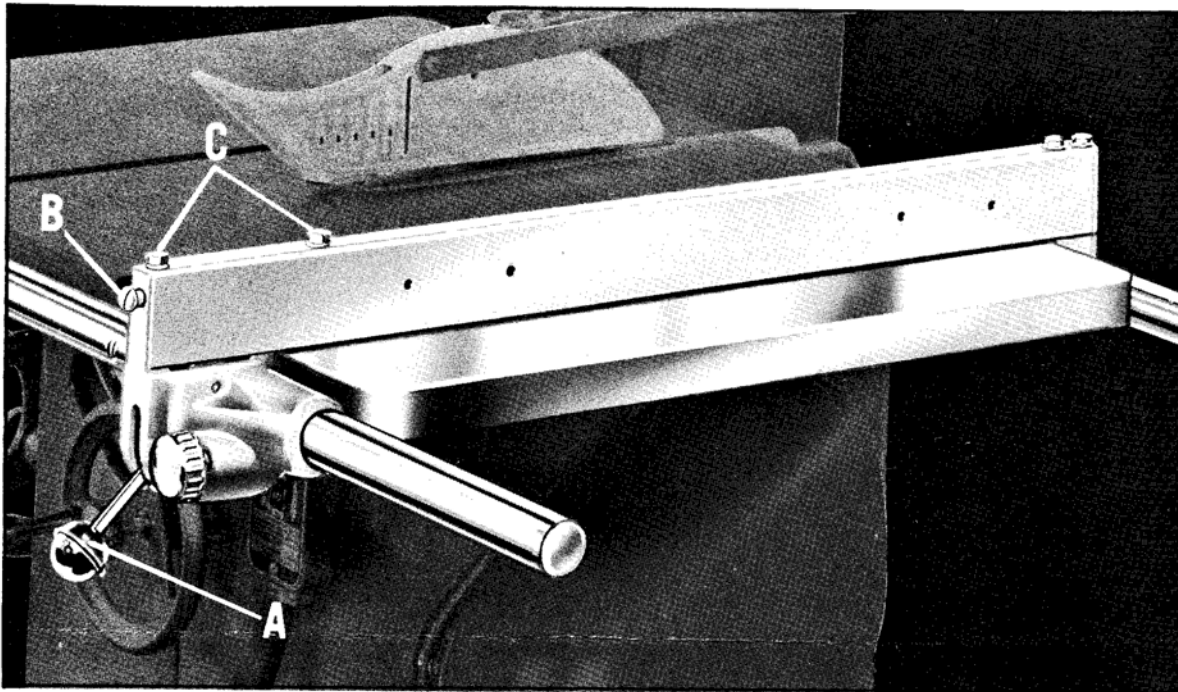

Fig. 13.
To move the rip fence, raise the clamp lever (A) Fig. 13, as far as it will go.
When the clamp lever (A) Fig. 13 is all the way down, clamping action on the front and rear guide rails should be equal. If clamping action on the rear guide rail is more or less than clamping action of front guide rail, an adjustment of the rear clamp hook is made by turning sleeve (B). Turning the sleeve clockwise will increase tension and turning it counter-clockwise will decrease tension.
The rip fence can be used on either side of the blade. The most common location is on the right hand side. The fence should be adjusted so it is parallel to the miter gage slots. To check the rip fence set it at one of the miter gage slots, and tighten the clamp lever (A) Fig. 13. If an adjustment is necessary, loosen the two front cap screws (C) Fig. 13, and raise the clamp lever (A). Move the rear end of the fence body to one side or the other until it is parallel with the miter gage slot. Then lock the clamp lever (A), by pushing it down, and tighten the two clamp screws (C).